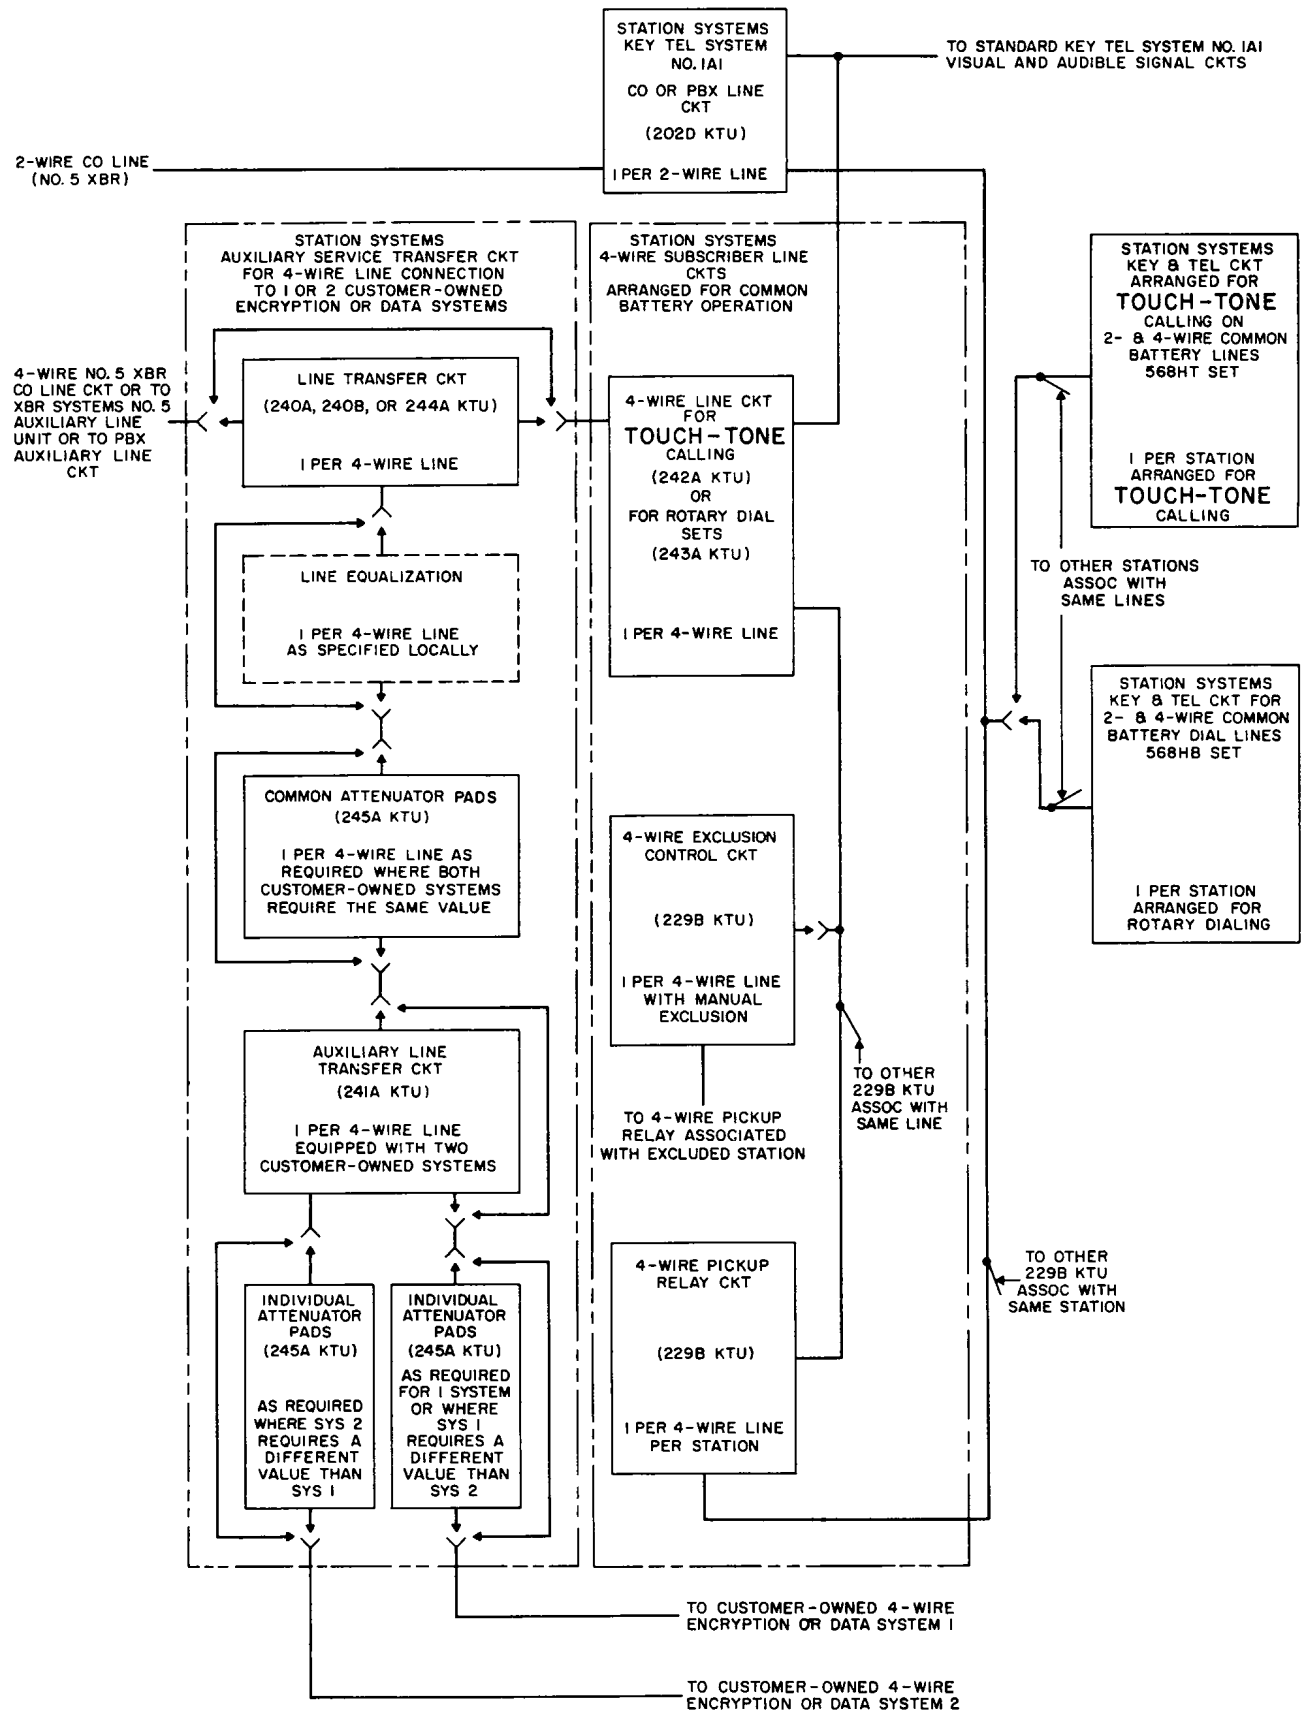

Fig. 1 — Block Diagram, Station Arrangement for 2- and 4-Wire Service
3.13 A 245A KTU, containing attenuator pads, is required when the input signal to the customer-owned encryption or data equipment is not at the proper level. Two plug-in 89-type resistors per 245A KTU must be ordered *separately*. Table B lists the 89-type resistors and the db loss introduced to the circuit. When two customer-owned equipments require pads of the same value, a common pad arrangement may be furnished ahead of the auxiliary line transfer circuit (241A KTU) as shown in Fig. 1. When two customer-owned devices require pads of different values, provide individual 245A key telephone units after the auxiliary line transfer circuit (241A KTU) as shown in Fig. 1.
3.16 Fig. 1 is a block diagram showing the various arrangements of the key telephone units and associated key telephone sets for 2- and 4-wire service.